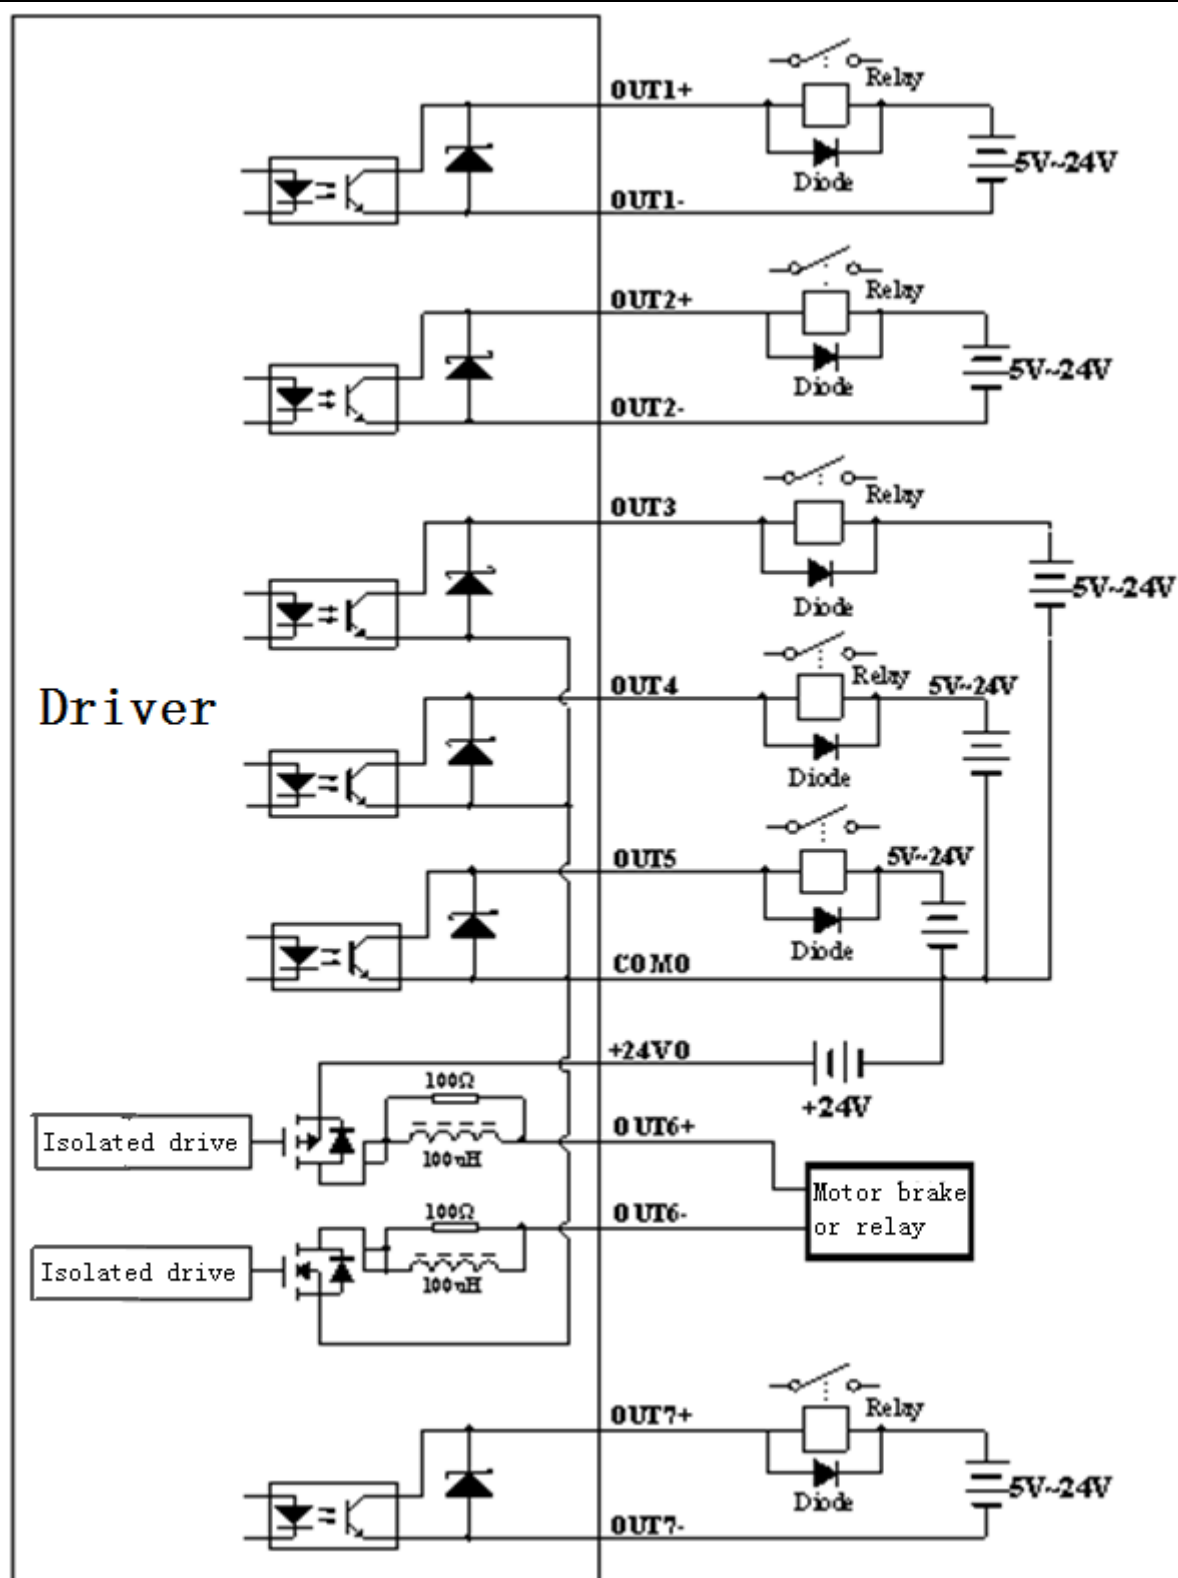

Fig.7-9 To connect a relay to the digital output port
4. To connect a relay to the digital output port, do remember to connect a diode in inverse parallel, as shown in Fig.7-9.